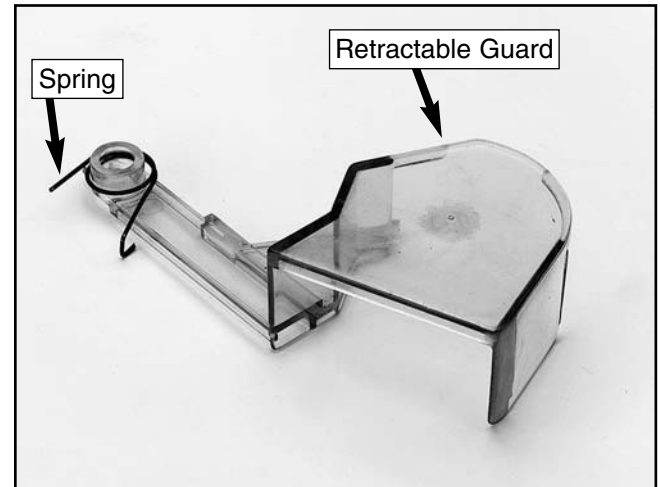

Figure 11. Correct spring placement.
1. Attach the spring to the retractable guard as shown in **Figure 11**.